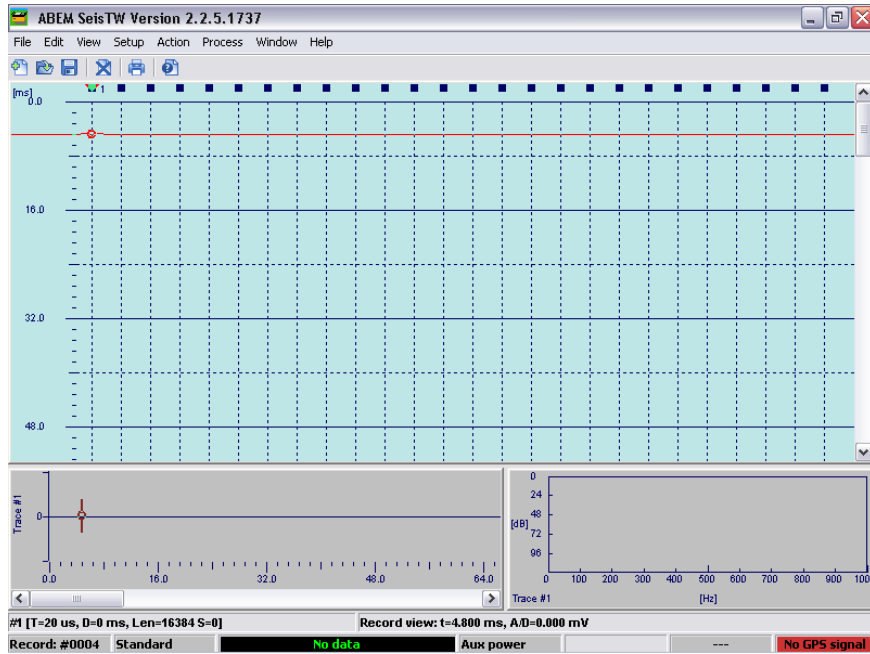

Figure 19 First break marker
- Positioning a first break marker (Figure 19)